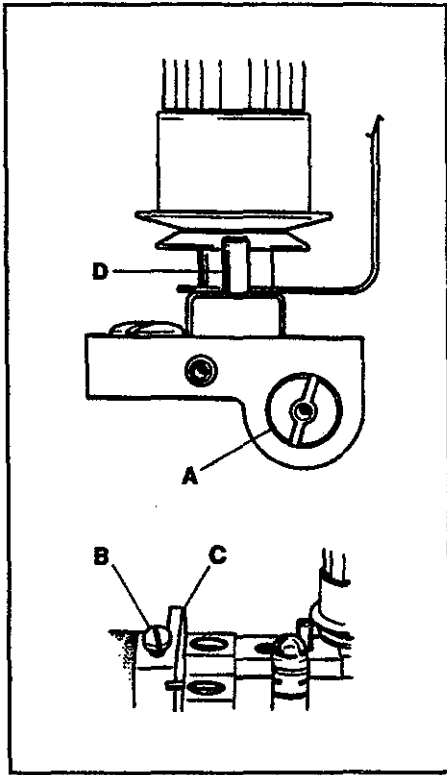

FIG. 35
The tension release should start to function when the presser foot has raised approximately  $1/32"$  (0.8mm) above the surface of the throat plate and be entirely released when the presser foot has reached its highest position. Insert a large screwdriver into slot on the right end of shaft (A, Fig. 35), loosen screw (B) in lifter lever (C) and turn the screwdriver to raise or lower pins (D). Tighten screw (B).